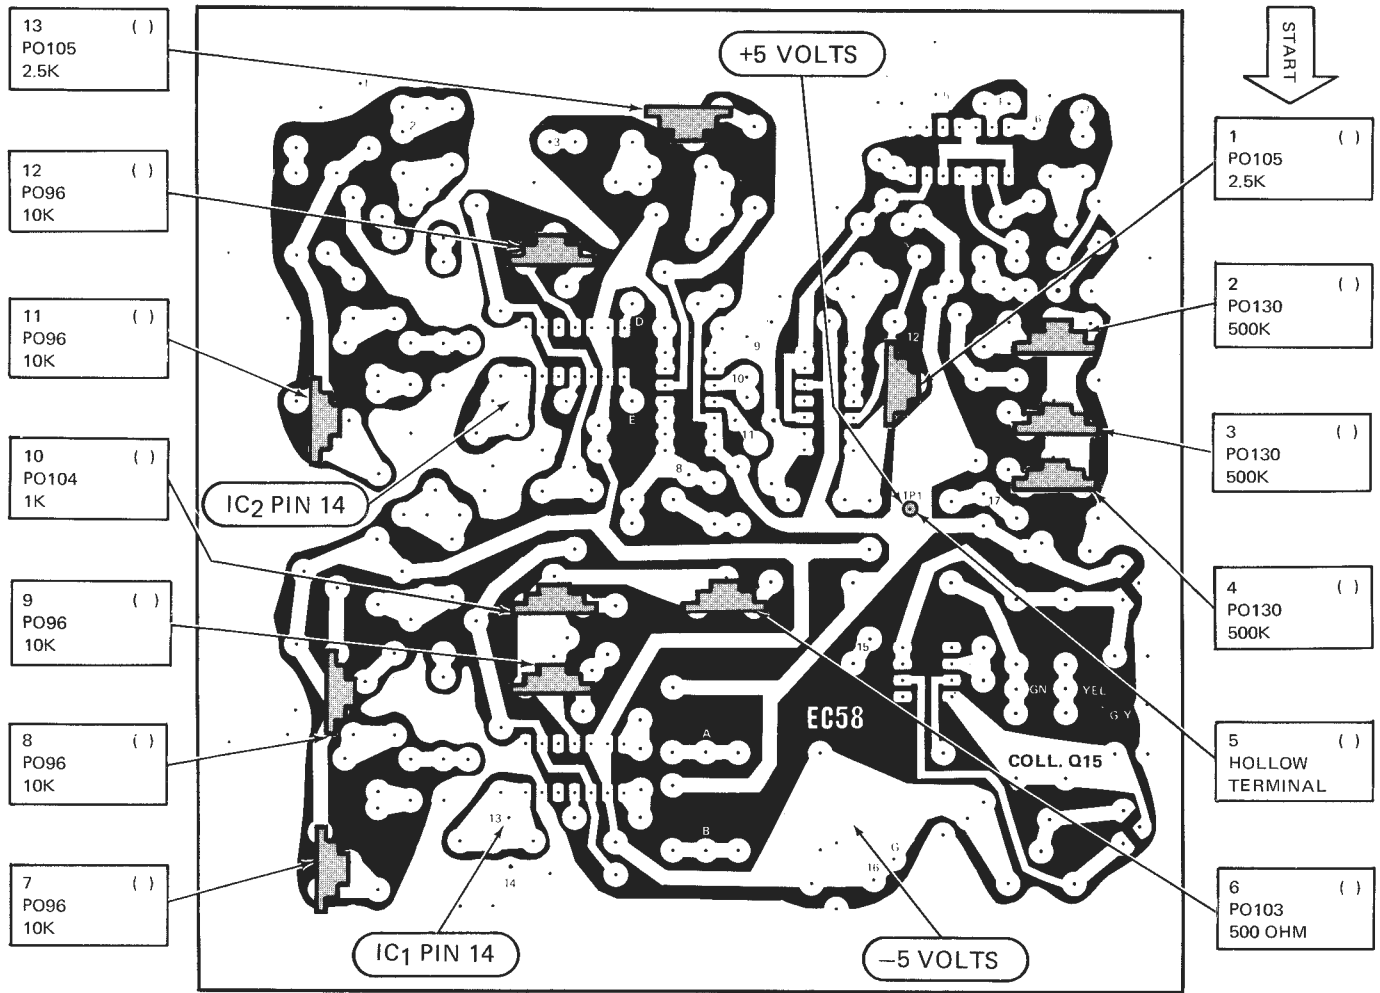
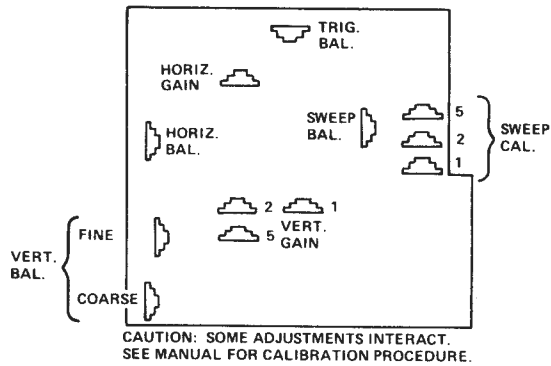

Fig. 6. Installing components on the foil side of EC58.
Fig. 37. Internal control identification.
First, measure the voltage at Pin 14 of IC₁ (see Fig. 6, page 8) with a voltmeter set to its lowest range. As you monitor this voltage, carefully adjust the coarse and fine vertical balance controls (see Fig. 37) until this voltage is exactly zero. Now monitor the voltage at Pin 14 of IC₂ as you adjust the horizontal balance control (Fig. 37) for zero volt at this point. This adjustment should be made with the horizontal positioning control on the front panel set to the center of its adjustment. After you have made both of these adjustments, unplug the oscilloscope from the ac outlet and install the two IG36 (733) integrated circuits in the two empty IC sockets (IC₁ and IC₂) on the front circuit board. Note that Pin 1 (the notched end) of each IC must be towards the front of the oscilloscope. Make sure that all the IC pins are plugged into the socket and that the integrated circuit is fully seated in the socket.
Remove the clip lead from the low-voltage ac test point and very carefully clip it to the center terminal of the Slope switch. This is the terminal with the single-conductor cable attached. Make sure the Trigger Level knob on the front panel is centered with the dot straight up at "0," then slowly adjust the TRIG BAL control (see Fig. 37) while you watch the screen. As you adjust this control you should see the horizontal line on the screen split into two parts, one above the other connected by a short vertical space. The space should move left and right as you rotate the TRIG BAL control back and forth, causing the two horizontal line segments to increase and decrease in length.
horizontal gain (HORIZ GAIN) potentiometers which are also located on the front circuit board as shown in Fig.37. First switch the Sweep Source to EXT and make sure the dot is centered on the crt screen. Use the horizontal and vertical position controls to accomplish this. Now set the Sweep Source switch to INT and the Trigger Source switch to LINE. Next adjust the sweep balance (SWEEP BAL) potentiometer counterclockwise. You should see the left end of the line move to the left on the crt screen. Continue turning the potentiometer until the left end of the line almost coincides with the first vertical line of the graticule. Now turn the horizontal gain control until the left end of the line touches the first vertical line of the graticule, and the right end of the line touches the last vertical line of the graticule. Alternately adjust the SWEEP BAL and HORIZ GAIN Controls so that the horizontal line extends from the leftmost to the rightmost vertical lines of the graticule. When you have reached this condition, the SWEEP BAL and HORIZ GAIN are correctly adjusted.
Now that you have established the gain of the horizontal amplifier, you can proceed with the sweep calibration. Set the TIME/CM switch to its 5 milliseconds (5 mS) position and the Variable Sweep control fully clockwise. Now adjust the top sweep calibrate potentiometer (5 in Fig. 37) until you see three complete cycles of the input waveform from the extreme left
Refer to Fig. 41 for the following steps. Set the vertical input switch to the GND position and the VOLTS/CM switch to the "5" position. Adjust the vertical position control so that the line coincides with the center horizontal line on the graticule. Now move the input switch to DC and you will notice that the line moves up. Adjust the vertical gain calibrate potentiometer, labeled 5 in Fig. 37, so that the line moves up exactly one centimeter (to the next line on the graticule). There will be some interaction between the gain adjust potentiometer and the vertical position control, so switch back and forth between GND and DC several times, each time readjusting the position and gain calibrate controls so that the line moves exactly one centimeter each time the switch is thrown.